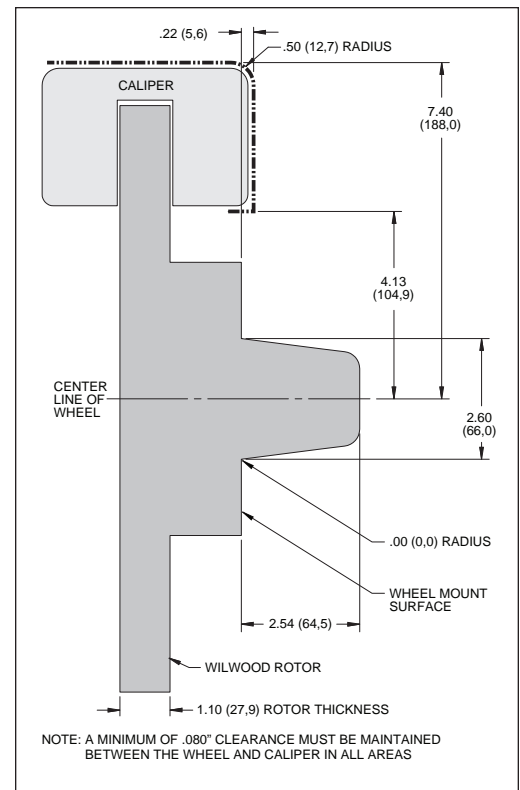

Figure 2. Wheel Clearance Diagram
- Review the Wheel Clearance Diagram (Figure 2, page 4) to verify that there is adequate clearance with the wheels you will be using with the installation.
- Verify your wheel clearance using Figure 2.